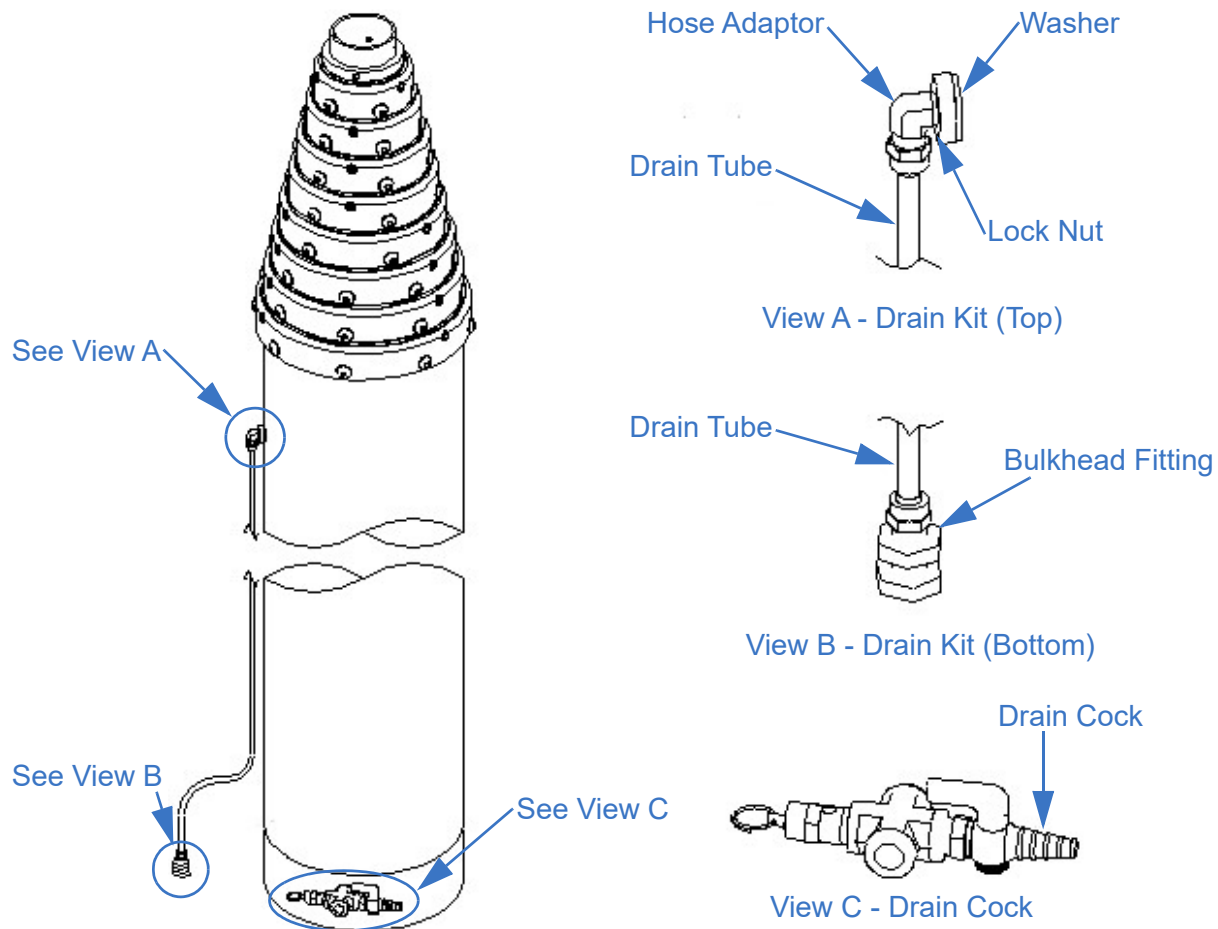

Figure 5-24 Drain Kit Installation
2. Fasten the hose adaptor to the drain hole (Figure 5-24). Apply PTFE Tape to all threaded joints. Turn the hose adaptor in ONLY 1 ½ to 2 times after initial engagement of the threads. Turning further will damage the mast. Tighten the locknut to secure the hose adaptor in place. Overtightening could cause the hose adaptor to contact the moving intermediate tube.